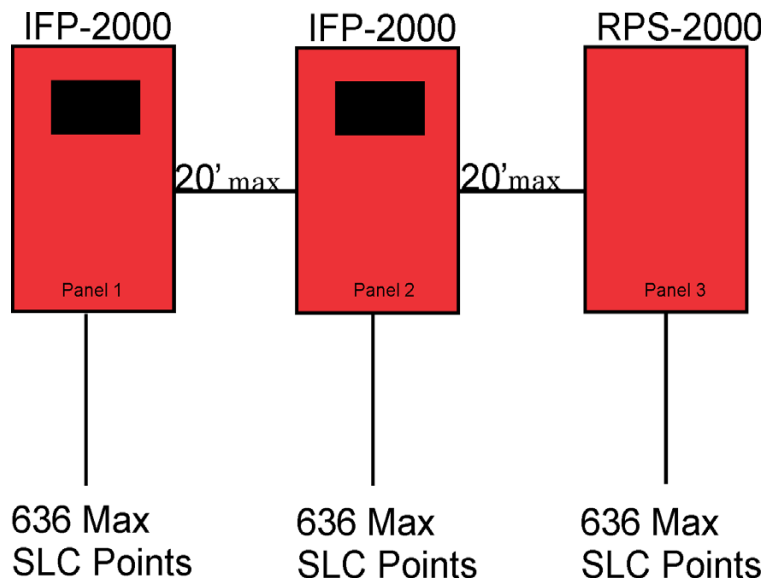

Figure 5-1 Direct Connect Wiring Option
When networking a group of IFP-2000s and/or RPS-2000s within a 20 foot radius of each other, you may use the direct connect method to link the panels together in the site. The cable used must be shielded twisted pair communication grade cable. See Figure 5-1 on page 2, direct connect wiring option. The direct connect wiring option uses a BUS configuration. There are no T-taps or class A wiring options.
1. Mount the IFP-2000 and/or RPS-2000 panels within 20 feet of conduit run distance from each other. Place the conduit for routing the direct connect networking cable between panels in a bus configuration as shown above in Figure 5-1 on page 2.